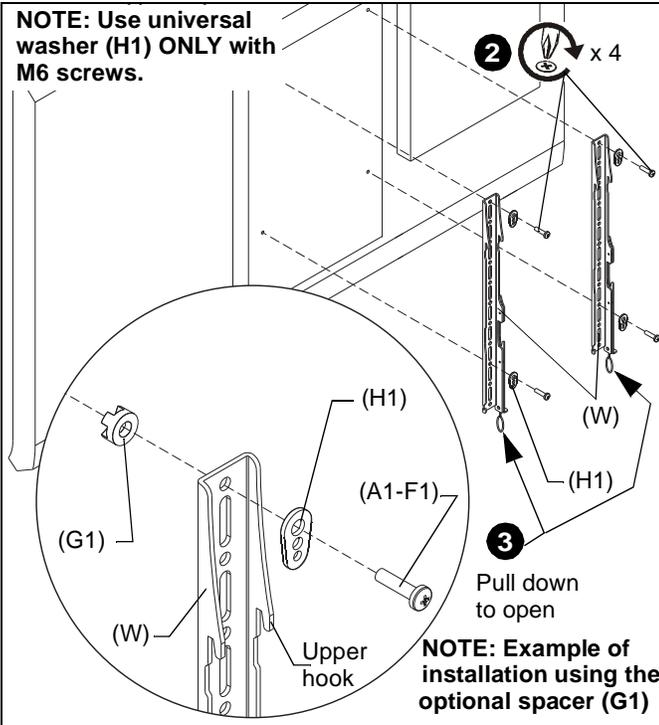
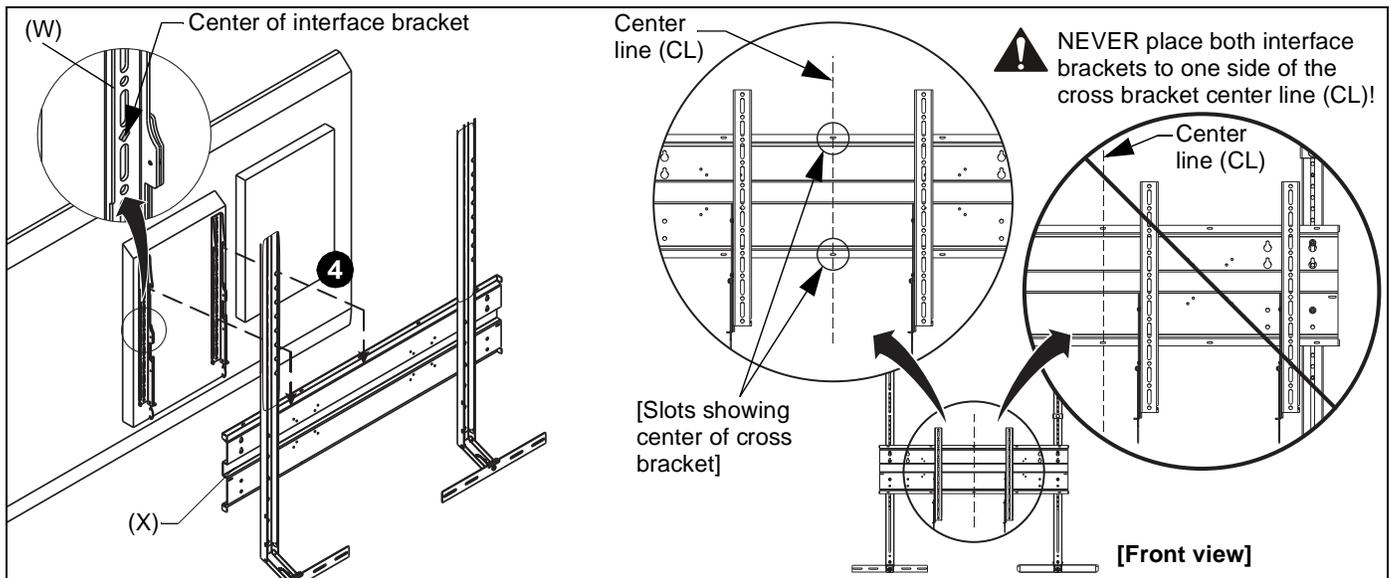

Figure 15
Figure 16
2. Attach interface brackets (W) to flat panel using selected hardware. (See Figure 15)
**NOTE:** Ensure that upper hooks on interface brackets (W) are towards *top* of flat panel.
**NOTE:** Center of interface brackets should be as close as possible to the center of the flat panel back after being installed. The center of interface bracket is indicated by the diamond-shaped hole. (See Figure 16)
3. Pull down on interface bracket handles to open for attaching to OB1U. (See Figure 15)
4. Hang flat panel with attached interface brackets onto the cross bracket (X), ensuring that one interface bracket is on each side of the cross bracket center line (CL). (See Figure 16)
**NOTE:** Two slots on cross bracket indicate center line of cross bracket. (See Figure 16)
**IMPORTANT ! :** Laterally shift flat panel along cross bracket as desired, but NEVER place both interface brackets (W) to one side of the cross bracket (X) center line! (See Figure 16)